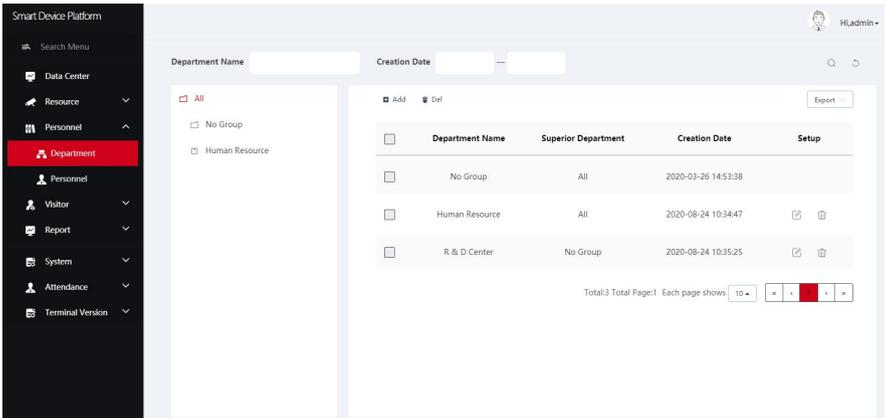

Figure 5-35
Step 1: In the smart device platform interface, click "Personnel→Department" to enter the organization management interface, as shown in Figure 5-35 below.